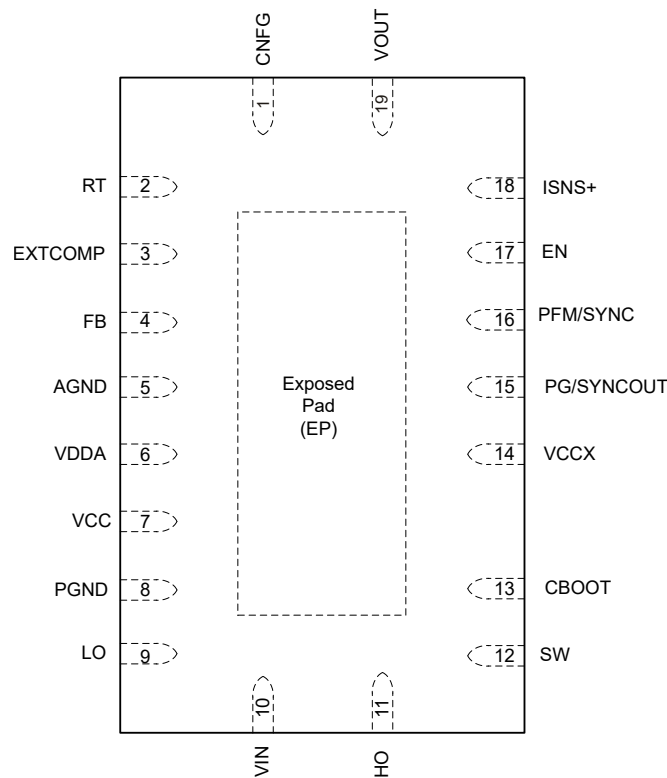

Figure 5-2. 19-Pin VQFN RGY Package With Wettable Flanks, LM5148PSQRGYRQ1 (Top View)
- VQFN-19 package for increased high voltage pin spacing (Figure 5-2)